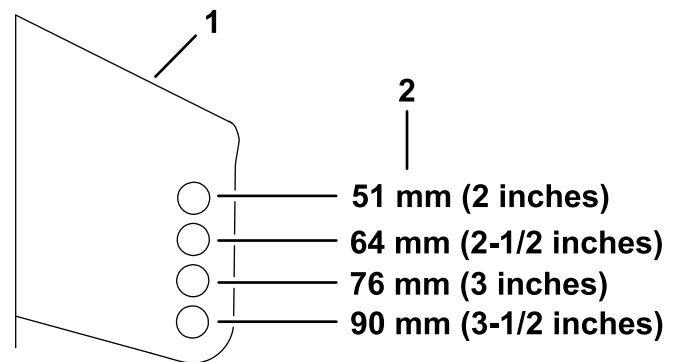

Figure 31
5. Place the rollers in 1 of the positions shown in Figure 31.